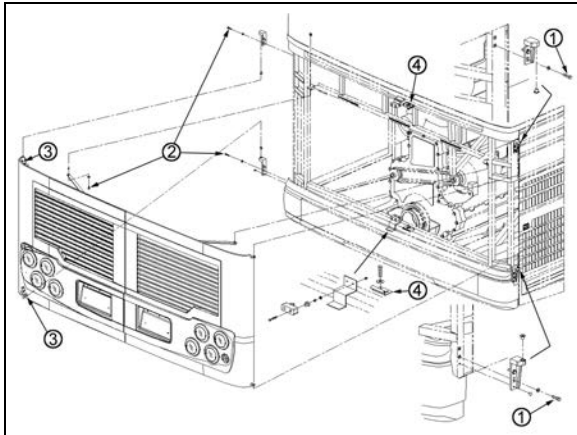

FIGURE 79: ENGINE COMPARTMENT DOORS 18633
1. Loosen the bolts, (1, 2 Fig. 79) holding the hinge to the vehicle structure to shift the door "UP or DOWN".
2. Loosening the bolts (3, Fig. 79) allows the door to be shifted "LEFT or RIGHT" and "IN or OUT".
To adjust the latch mechanism (4, Fig. 79) and the striker pin: